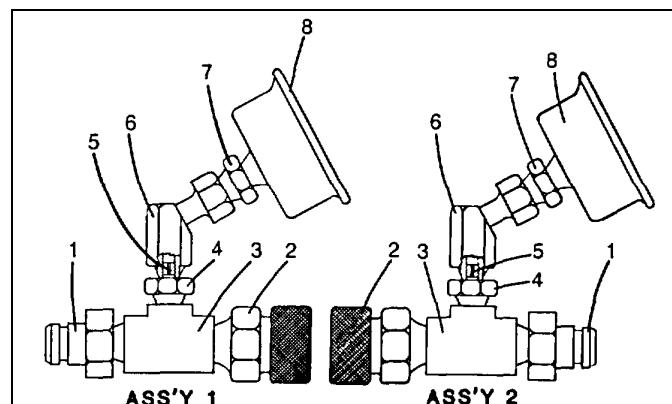

Fig. 3-12
- Use a 2500 psi pressure gauge to adjust the relief valves. This gauge should be protected against pressure surges by an orifice or a nearly closed needle valve. Refer to Fig. 3-12 for examples of gauge assemblies with orifices and quick disconnects.